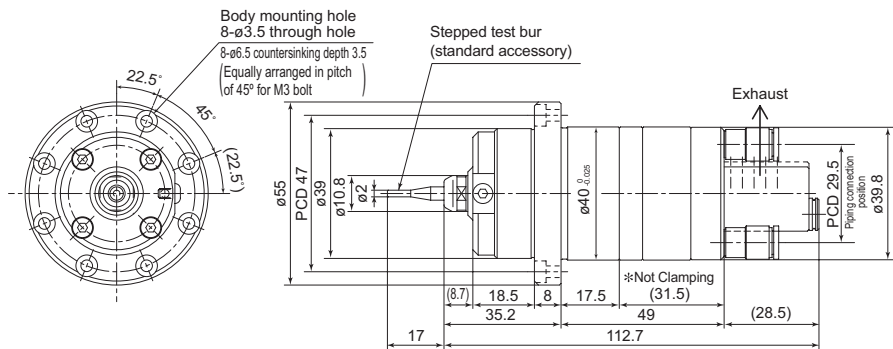

Fig.2 Detailed dimensional drawing
- ① Remove the protect cover of the Xpeed1600.
- ② Insert the spindle housing diameter $\varnothing 40$ section into a holder (prepared by customer).
- ③ Secure the spindle to the countersunk holes (8 locations) on the flange using M3 bolts as shown in Fig.2 and Fig.3.